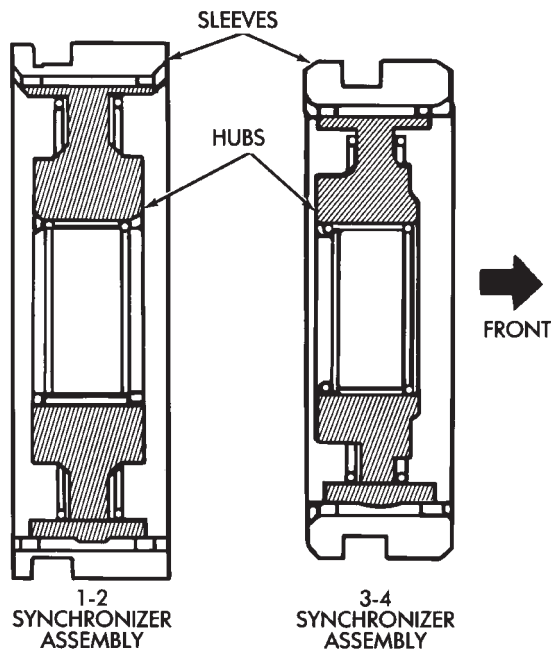

Fig. 108 Synchronizer Identification
(2) If necessary, assemble 1-2 and 3-4 synchronizer hubs, sleeves, springs and key inserts (Fig. 108).